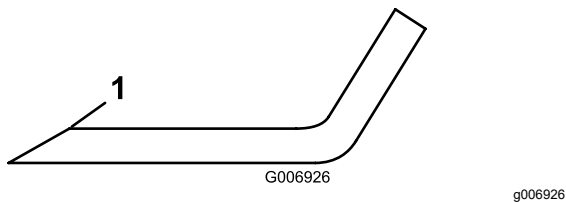

Figure 74
4. Inspect the cutting edges of all the blades, sharpen the cutting edges if they are dull or nicked, sharpen only the top of the cutting edge, and maintain the original cutting angle to ensure sharpness (Figure 74).